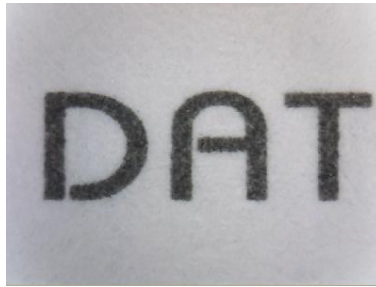

Fig. 3-18 Video image with no flip
- ⊕ No Flip “ ” : Video image’s flip direction, does not makes any flip shown in Fig. 3-18.